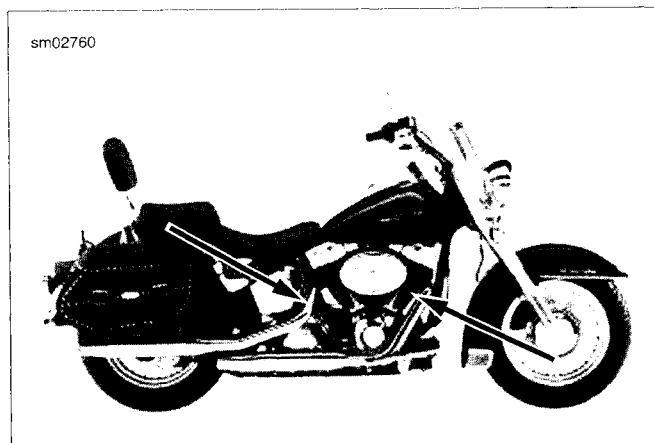

Figure 4-29. Oxygen Sensors (Inboard Side of Exhaust Pipes)
1. See Figure 4-29. The O2 sensors are installed in threaded bosses on the inboard side of front and rear exhaust pipes.